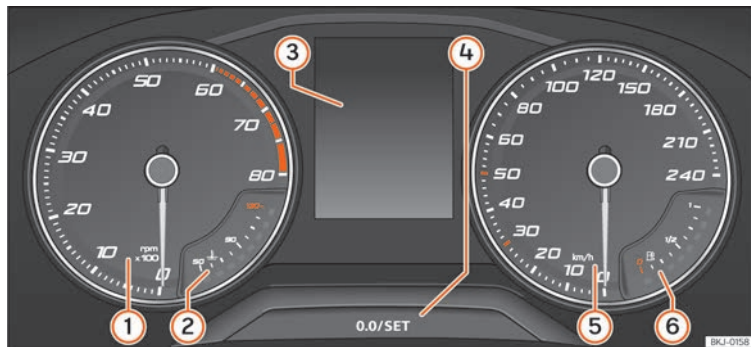

Fig. 60 Instrument panel, on dash panel.
Details of the instruments » **Fig. 60:**
- Briefly press the button  »» Fig. 60